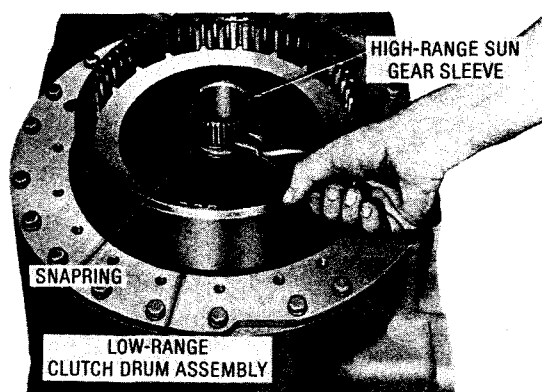

Fig. 5-38. Removing high-range sun gear sleeve snapring (TRT 2221-1, 2421-1)
(10) Remove the snapring from the splined sleeve (fig. 5-38).